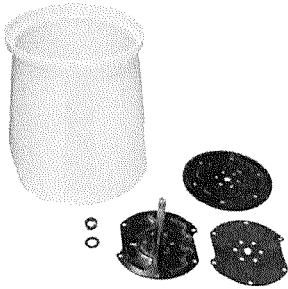

Fig.8: Parts required for drum assembly.
1. Sort through all the components and set aside pieces required for the drum. Remove lock ring from rod (Fig.8)